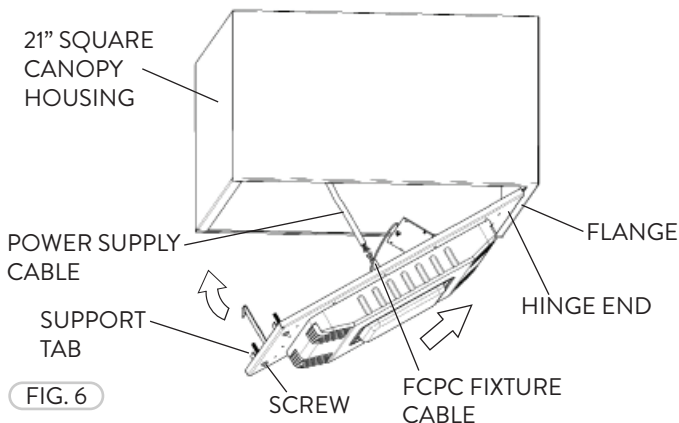

FIG. 6
- 3 Attach the Power Supply Cable wires to the FCPC fixture Cable wires. Insert FCPC fixture with Retrofit Plate Hinge End onto Housing Flange and rotate up into place (Fig. 6). Rotate the Support Tabs to rest on the Housing Flange on the opposite side and tighten the Support Tab Screws until Support Tabs pull the Retrofit Plate tight against the Housing.